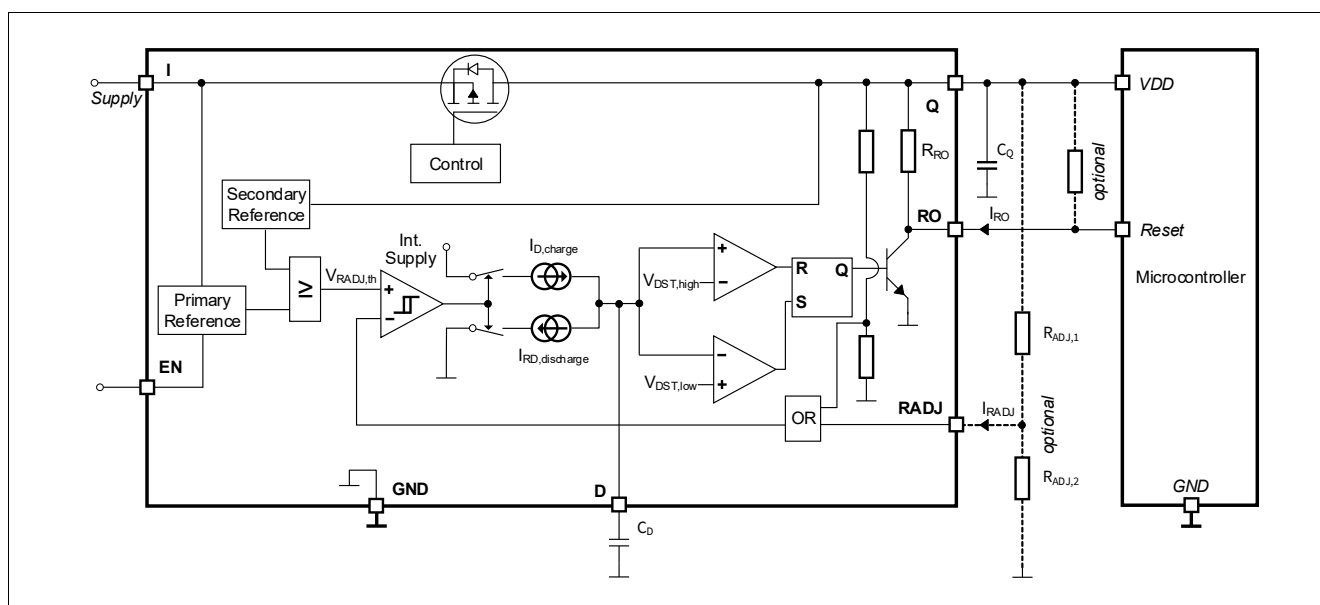

Figure 7 Functional block diagram reset
- $R_{ADJ,1}$, $R_{ADJ,2}$: Resistors of the external voltage divider, see Figure 7
$V_I = 13.5\text{ V}$, $T_j = -40^\circ\text{C}$ to 150°C ; all voltages with respect to ground; direction of currents see Figure 7 (unless otherwise specified)
$V_I = 13.5 \text{ V}$, $T_j = -40^\circ\text{C}$ to 150°C ; all voltages with respect to ground; direction of currents see Figure 7 (unless otherwise specified)
$V_I = 13.5\text{ V}$, $T_j = -40^\circ\text{C}$ to 150°C ; all voltages with respect to ground; direction of currents see Figure 7